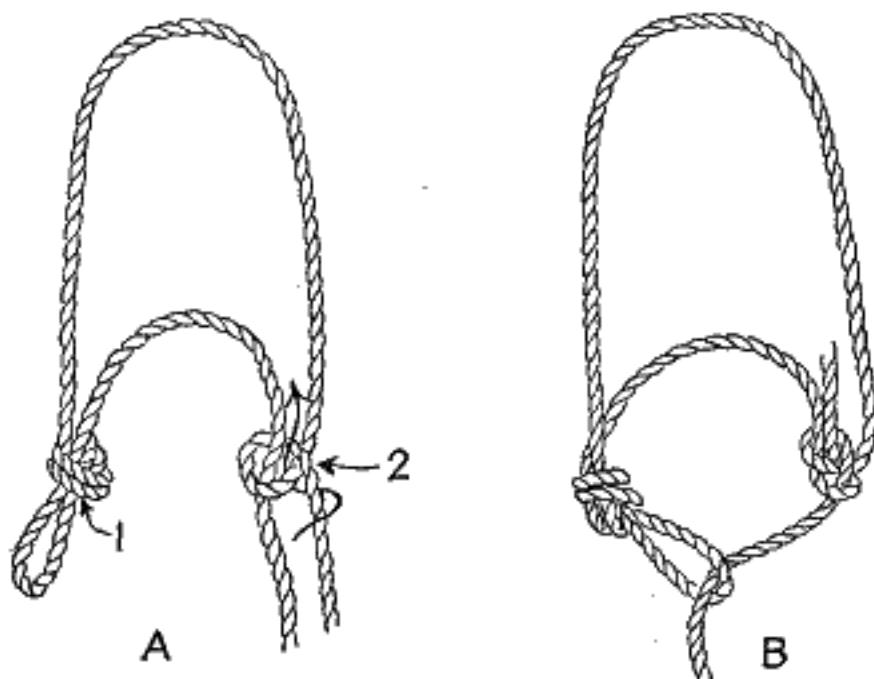

FIG. 357.—An emergency halter.
**415. An emergency or temporary halter** is easily and quickly made, as illustrated in Fig. 357. The end of the rope is turned back on itself